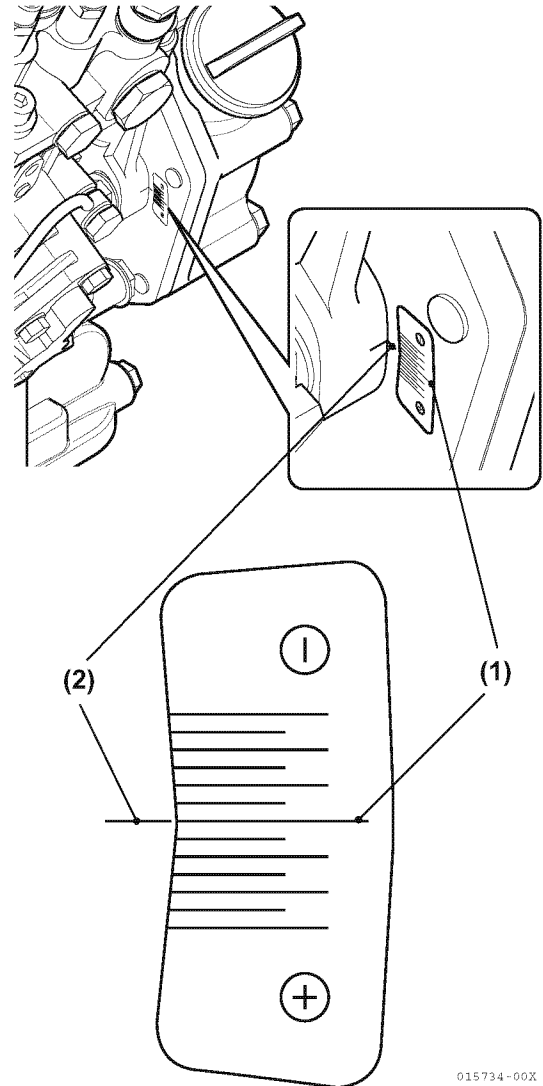

Figure 6-44
- (a) Reinstall the timing grid sticker, provided with the new fuel injection pump, onto the back of the gear case / front plate (Figure 6-44). Align the “standard mark” (Figure 6-44, (1)) with the reference mark (Figure 6-44, (2)) made on the gear case during disassembly.